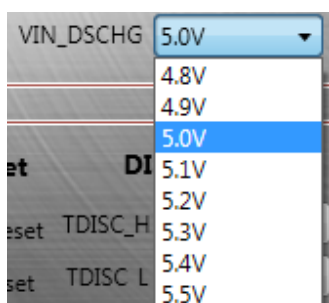

Figure 21: Setting the OTG Output Voltage Regulation
- The default value is 5.0V (see Figure 21).